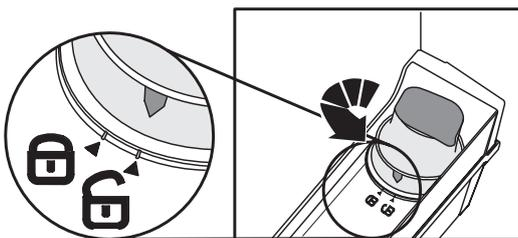

Fig 3
- Unlock the whole filter turning it anticlockwise (**Fig 3**);
- remove the old carbon cartridge and insert the new one after activated, with current month faced in the window). (You can follow the procedure described in Carbon filter activation and Filter installation - Fig. 3, 4, 5, 6, 7, 8).